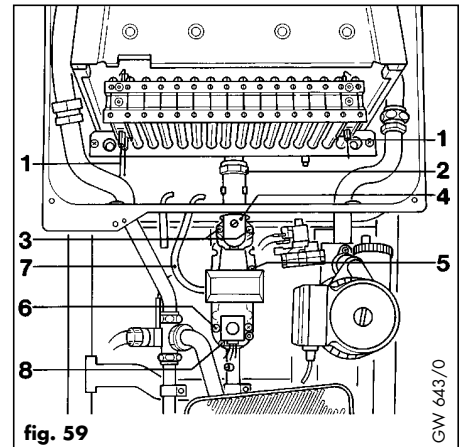

fig. 59
- Remove screw (5, fig. 59) and lift off gas operator cover.
- Disconnect air tube (7, fig. 59) from operator.
- Remove two screws (3, fig. 59)
- Slacken retaining screw (8, fig. 59).
- Remove screw (5, fig. 59) and lift cover off gas valve.